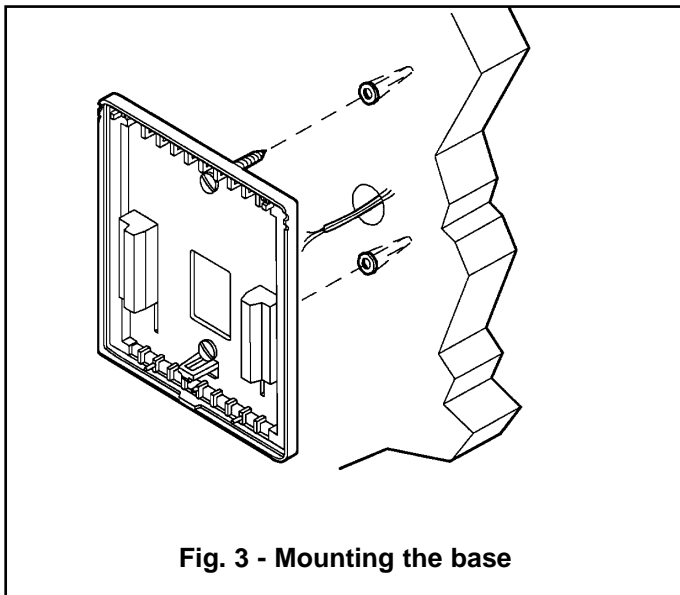

Fig. 3 - Mounting the base
3. Use the supplied anchors and screws for mounting on dry-wall or plaster. Drill two 5 mm holes at the marked locations, and tap nylon anchors flush to the wall surface and fasten. (See figure 3).